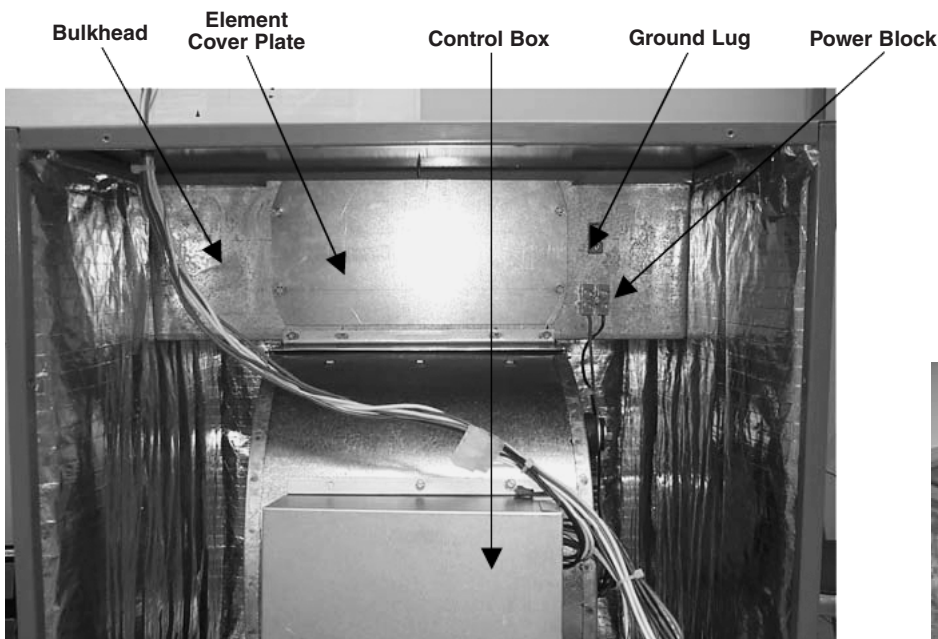

Figure 1
3. Remove heater element cover plate and discard. Keep the screws for heater kit installation. (Fig 1)
- A. Connect four-pin plug in to matting four-pin plug just above the control box. (Fig 1)